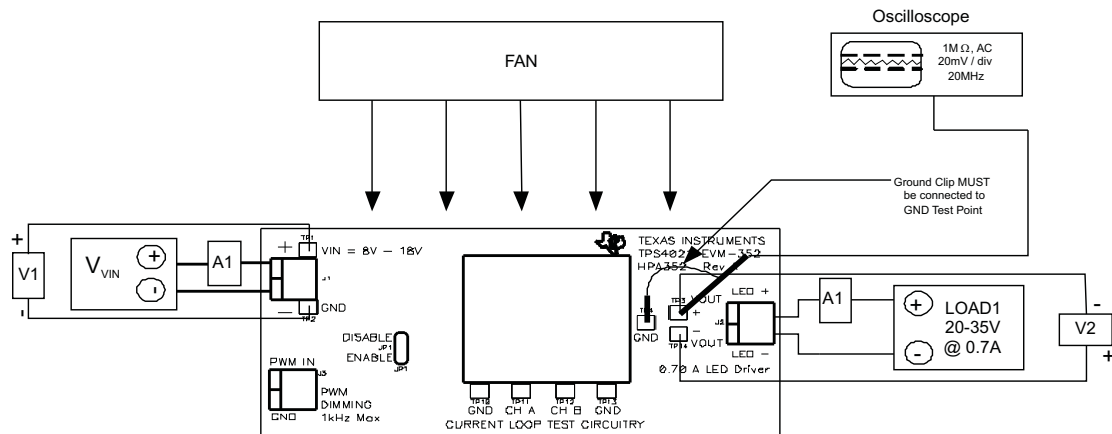

Figure 2. TPS40211EVM-352 Recommended Test Set-Up
The input voltage source ( $V_{IN}$ ) should be a 0-V to 18-V variable dc source capable of 4 ADC. Connect  $V_{IN}$  to J1 as shown in Figure 2.
Shown in Figure 2 is the basic test set up recommended to evaluate the TPS40211EVM-352. Note that the return for J1 and JP3 are not the same system ground. The connections should remain separate as shown in Figure 2.
2. Prior to connecting the dc input source,  $V_{IN}$ , it is advisable to limit the source current from  $V_{IN}$  to 4.0 A maximum. Make sure  $V_{IN}$  is initially set to 0 V and connected as shown in Figure 2.
3. Connect the ammeter A1 (0 A to 4 A range) between  $V_{IN}$  and J1 as shown in Figure 2.
4. Connect voltmeter V1 to TP1 and TP2 as shown in Figure 2.
5. Connect LOAD1 to J3 as shown in Figure 2. Set LOAD1 to constant current mode to sink 0 ADC before  $V_{IN}$  is applied.
6. Connect voltmeter, V2 across TP7 and TP8 as shown in Figure 2.
4. Connect oscilloscope probe to TP14 and TP15 as shown in Figure 2.